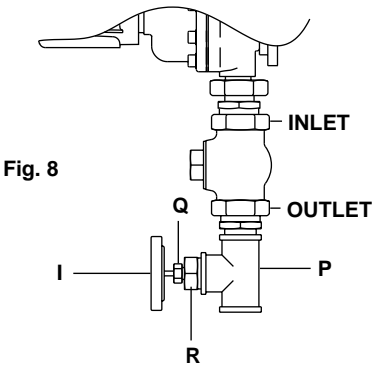

Fig. 8
The TCO1 must be installed with the end marked 'INLET' connected to the mixing valve and the end marked 'OUTLET' to the 'T' piece (K), see Figure 8. (These markings are stamped onto the hexagon end connections). The TCO1 is a safety device, if it is installed in reverse it will never be able to operate.
To connect the thermometer (I), (see Figure 8), screw the reducing bush (R) into the top of the 'T' piece (P); push the thermometer (I) into the pocket (Q) and lock in place with the grub screw; tighten the pocket (Q) into the reducing bush (R). The hose should be connected to the outlet of the 'T' piece (P) using the union on the hose. The hose may then be coiled onto the hose rack (if used). If using a self-retracting hose reel the hose will already be coiled and attached to the thermometer 'T' piece (P) using the hose union on its 2 m (6.5 ft) long connection hose (supplied with the self-retracting hose reel).